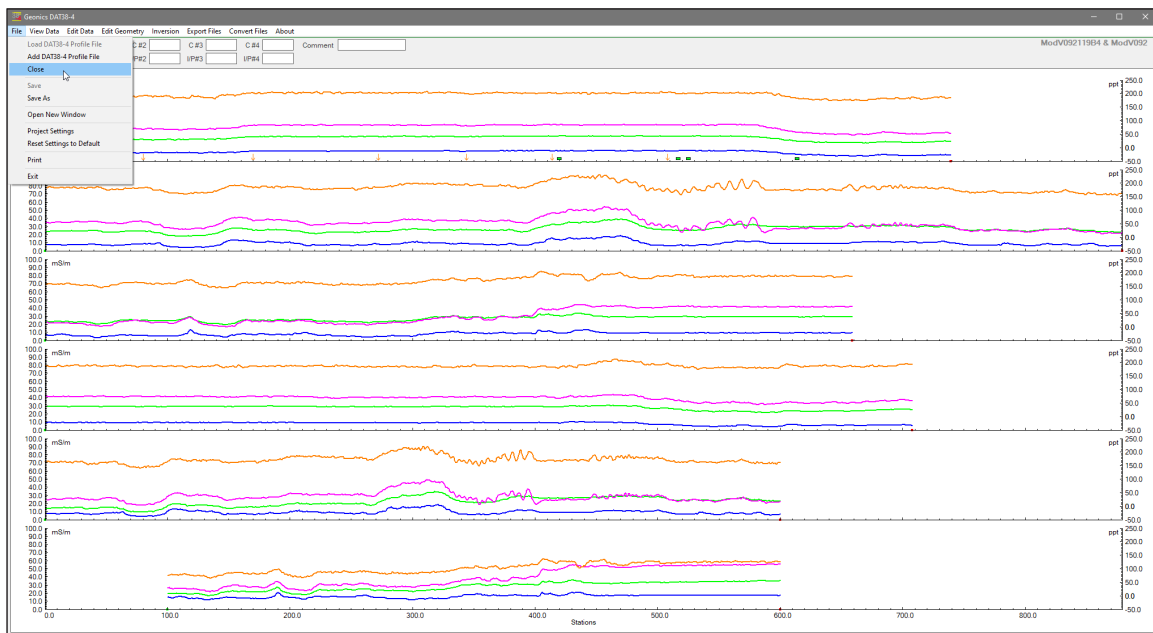

Figure 3.8 DAT38-4 File menu, Close item
- To close an active window, select **File | Close** (Figure 3.8) or click the window's close button.
- **Save:** To update the current file, select **File | Save** (Figure 3.8). The window's caption shows the file name.